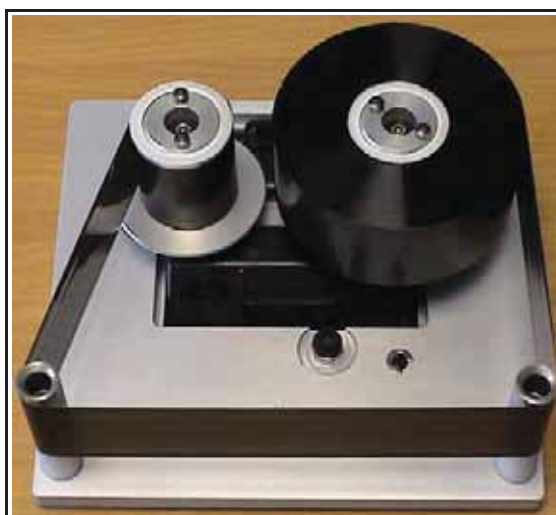

Figure 3-11: Ribbon Spool Routing
- 9 Turn the empty spool by hand to take up any excess ribbon. Stop turning the empty spool when the full spool starts to rotate (Figure 3-11).